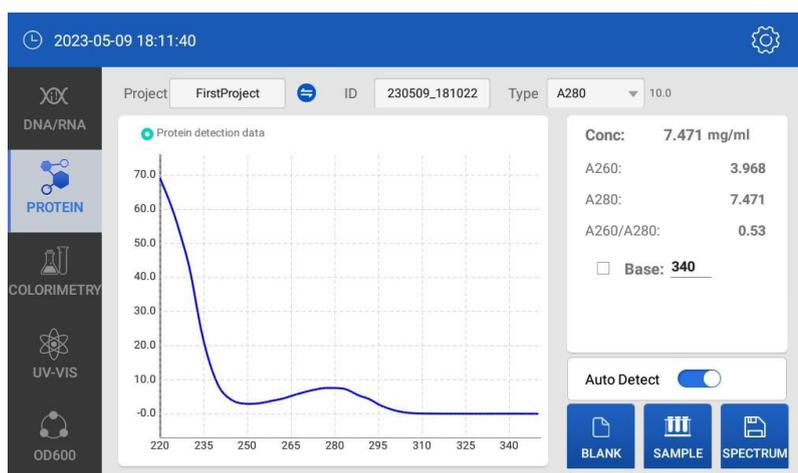
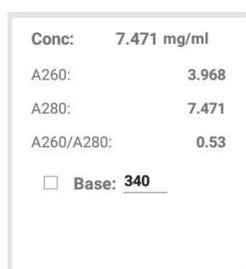

Fig 4.9 Protein detection result
Fig 4.10 Protein result
NB-12-5002 can detect the BSA concentration 90mg/ml without dilute under pedestal mode. When the light intensity is less than 200 (10mm wave length) after detection, the system will reminder user to shift to a shorter wave length to ensure the accuracy. It will show as below Fig 4.9 The liquid surface tension depends on the hydrogen bond of H₂O, usually, the stuffs in Water such as protein, saline ions, detergent which will destroy the hydrogen bond to reduce the surface tension. For most samples, 1 ul sample is enough for detection, 2 ul volume is recommended to form the liquid column due to the surface intension reduce.
(1)As showed Fig 4.9, blue-ground-colored buttons are active, white-ground-colored buttons are inactive.
① : Project name, make a proper name according to users' need.
② : ID No., default name is the current time, users also can make a new ID name according to need. Each ID can save 1000 data.
③ :Click to choose protein type, when users choose “other”, users can input the value according to need. Instrument will calculate the result.
⑥ : Under condition of this function on, instrument can detect automatically once upper pedestal put down.
(2) Operation steps:
① Set the project name and sample No.:
② Blank with TE buffer: add 2ul TE buffer on the lower pedestal, lay down the upper pedestal and start to “Blank”.
③ Clean the pedestals by a dust free cloth after blank.
④ Add 2ul sample onto the lower pedestal, lay down the upper pedestal, and press the “sample” button to measure. See Fig 4.10
(3) As Fig 4.10 (From Fig 4.9), the data result as below
① Set the project name and sample No., colorimetry type, and curve,
(2) Operation steps :
- ① Set the project name and sample No.:
- ② Blank with TE buffer: add 2ul TE buffer on the lower pedestal, lay down the upper pedestal and start to “Blank”.
- ③ Clean the pedestals by a dust free cloth after blank.
- ④ Add 2ul sample onto the lower pedestal, lay down the upper pedestal, and press the “sample” button to measure. See Fig 4.10
- ⑤ Clean the sample away from by dust free cloth, before next measurement.